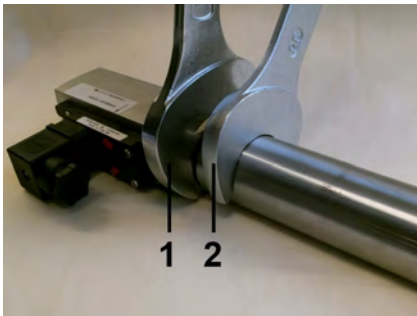

Fig. 11: Screw in the device
2. Fasten the adapter union of the pipeline with an appropriate spanner (Fig. 11/2). When doing so, lock the process connector in place to prevent slip, using a suitable spanner (Fig. 11/1).